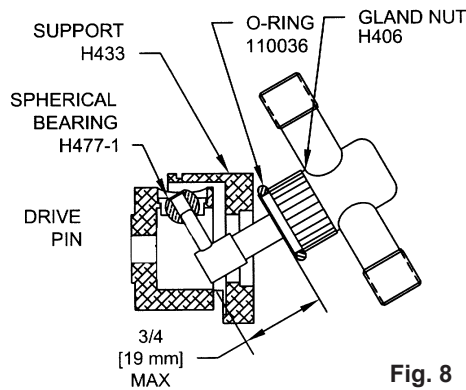
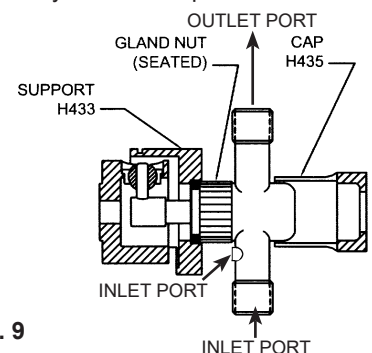

Fig. 8
Fig. 9
(refer, Fig 8.) remove two 110655-20 screws and while holding cylinder ports in place, slip part H435 off of CYLINDER ASSEMBLY H422. Tilt the assembly as shown in figure 8. This will permit removal of PISTON DRIVE PIN 110366 from SPHERICAL BEARING H477 without fully withdrawing piston from liner.
**22. PISTON/CYLINDER GROUP ASSEMBLY REPLACEMENT.** (refer, figs. 8 & 9)
Install "O" RING 110036 over GLAND NUT H406. Note in fig. 8 that PISTON DRIVE PIN must be guided into SPHERICAL BEARING H477-1 while the piston and cylinder remain assembled. This for the purpose of avoiding assembly damage to the seals. When PIN is in bearing, seat GLAND NUT with "O" RING in SUPPORT H433 as shown in fig. 9.